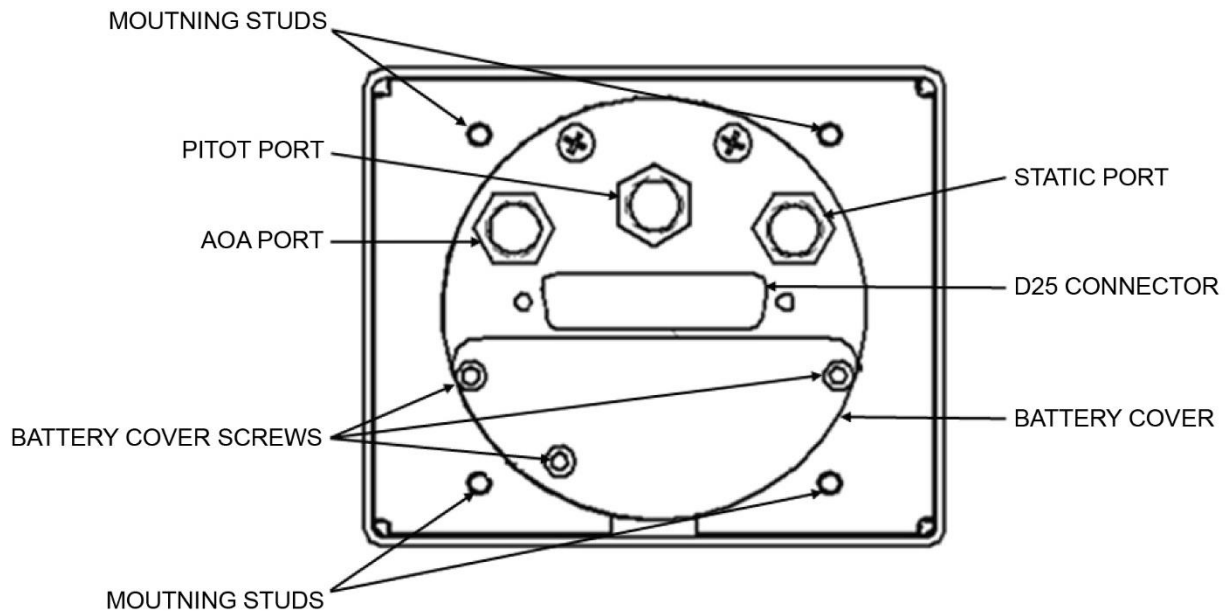

Figure 6: EFIS-D10A, Rear View
2. Open backup battery door by removing hex screws (see Figure 6). Do not remove other screws.
7. Position electrical connectors so they centered on end of backup battery. Make sure electrical connectors will not interfere with bottom hex screw (see Figure 6).
9. Insert bottom hex screw (see Figure 6) and tighten. DO NOT over-tighten.
10. Insert upper hex screws (see Figure 6) and tighten while gently pressing on door. DO NOT over-tighten. The upper hex screws thread into unit casing, where it is easy to over-tighten and strip hole threads.
2. Remove lock nuts and washers from mounting studs that secure unit to instrument panel (see Figure 6). Keep hardware for re-installation.
4. Disconnect and cap 1/8" NPT Pitot and Static fittings on unit (see Figure 6). AoA fitting should already be capped.
6. Remove (2) retention screws on D25 connector and disconnect wire harness from unit (see Figure 6).
1. Connect wire harness to D25 connector on unit (see Figure 6) and secure with (2) retention screws.
2. Attach Pitot and Static tubes to 1/8" NPT fittings on unit (see Figure 6).
4. Secure unit to instrument panel with original lock nuts and washers (see Figure 6).